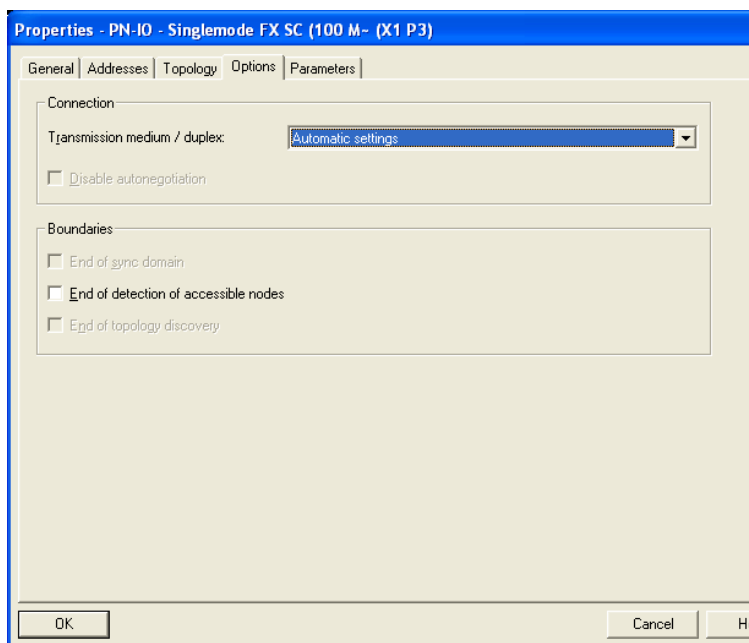

Figure 18: Dialog for entering the connection options
- Under `Connection/Transmission medium/duplex`, select the required setting for the port (see figure 18).